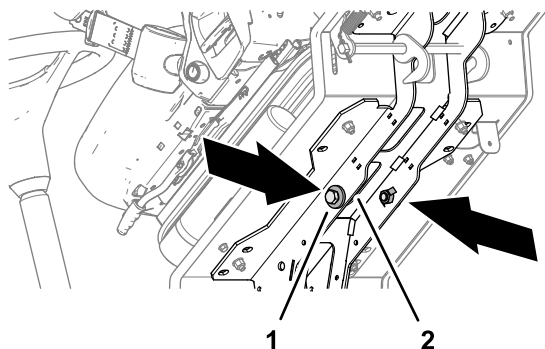

Figure 31
4. Remove the 2 bolts 12 x 40 mm and 2 washers 12 mm stored in the platform support rails (Figure 31).